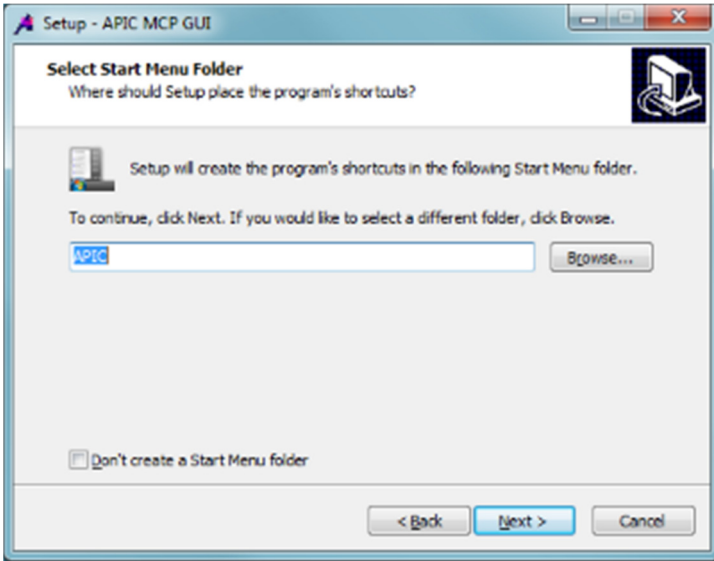

Figure 3 - Link naming option page in MCP GUI Setup program
- The next page allows you to change the folder name of the program in your start menu. By default the name is “APIC”, but you can change it to anything you like here (as illustrated in **Figure 3**). Click Next to continue.